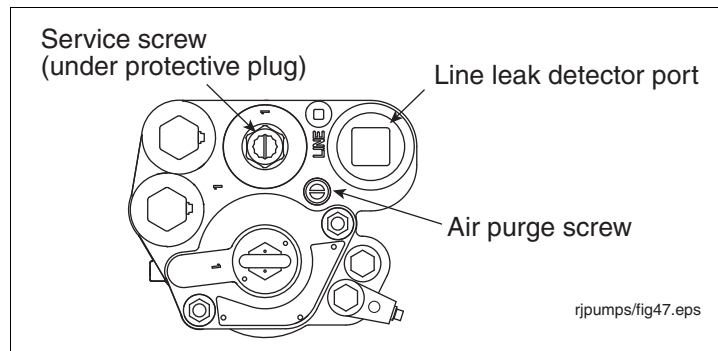

Figure 35. Locating Discharge Port Plug For Line Leak Transducer
6. Open the air purge screw 2 - 3 turns counterclockwise (see Figure 35).